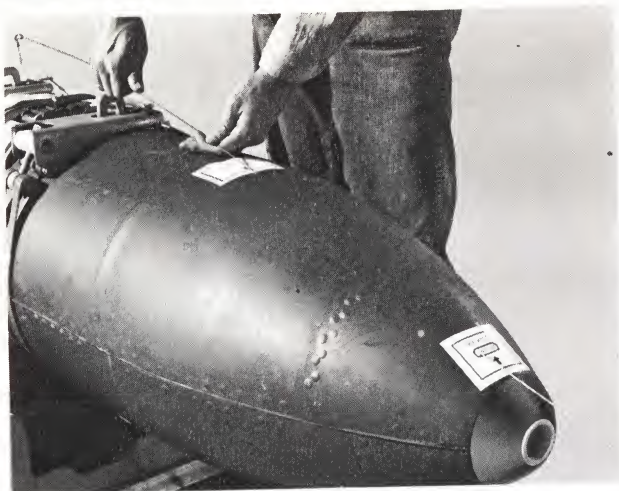

Figure 4-5. Arming Wire Inserted Through Dispenser
5. Thread arming wire through designated opening until at least 1 foot of wire extends through the arming wire exit hole, figure 4-5.